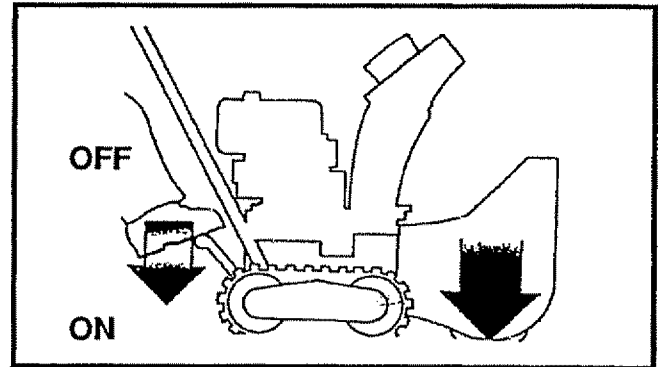

FIG.11
In hard packed or heavy snow conditions, conventional snow throwers tend to ride up and leave uneven mounds of snow behind. For these conditions, your new tracked snow thrower has a unique weight transfer system (See Fig. 11) designed to minimize ride-up.
- To use the weight transfer, hold the upper handle firmly and push down on the weight transfer pedal (See Fig. 11) with the ball of your foot.